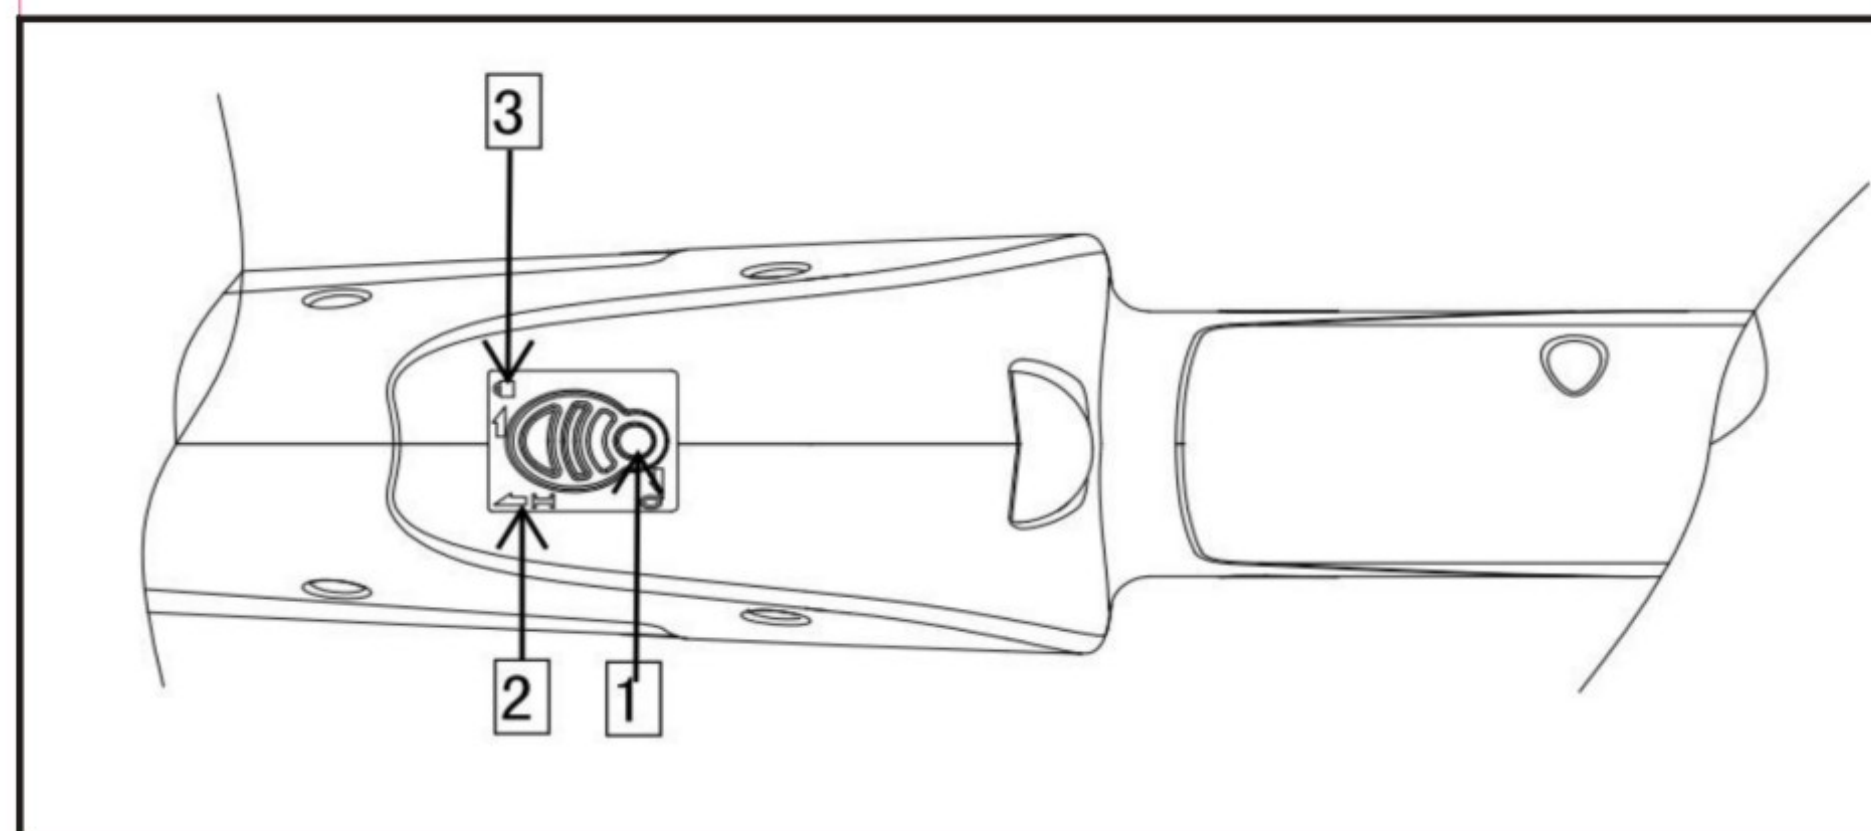

Fig .5
9. Governor (Fig .5)
The Governor, as shown in Fig .5, may be used to regulate the speed, so as to facilitate the operations of workers and improve work quality simultaneously.
8. Procedures for Operated Switch (Fig .5)